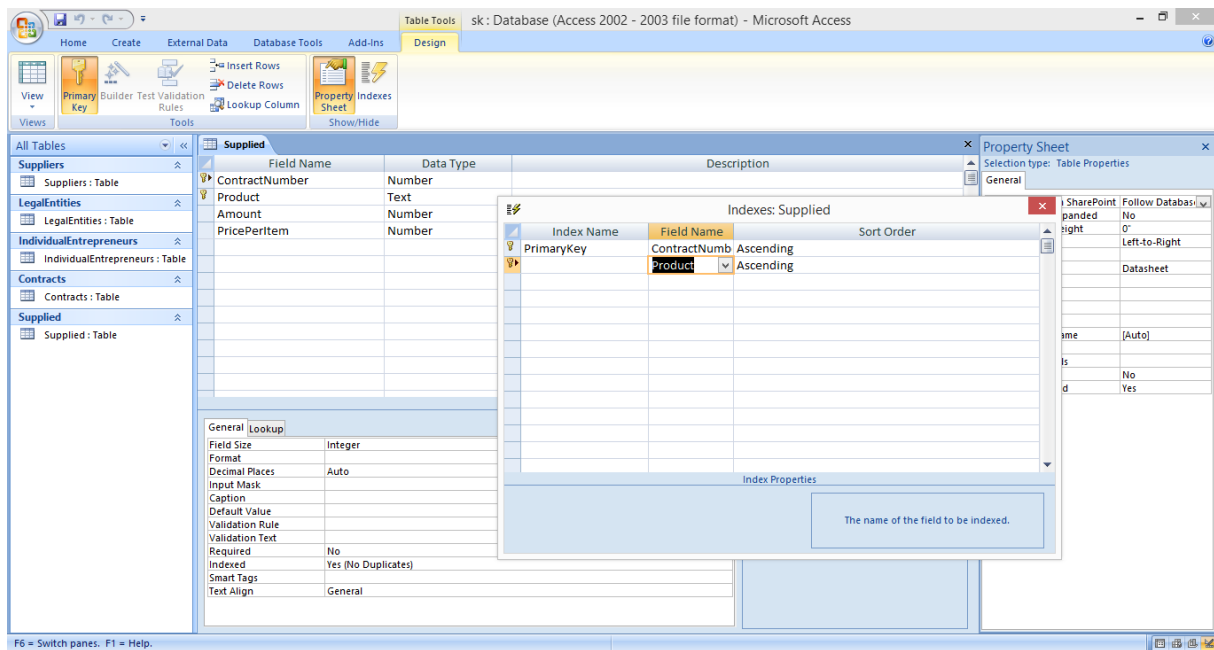

Figure 1.2
8) For the table “Supplied” include the field “ContractNumber” into the PK. Unlike the other tables, this table requires a composite primary key that will allow to control unique pair of contract number and product name. Therefore, the field “Product” should be included into the PK. For this click “Indexes” and add “Product” field into the “PrimaryKey” index (figure 1.2);